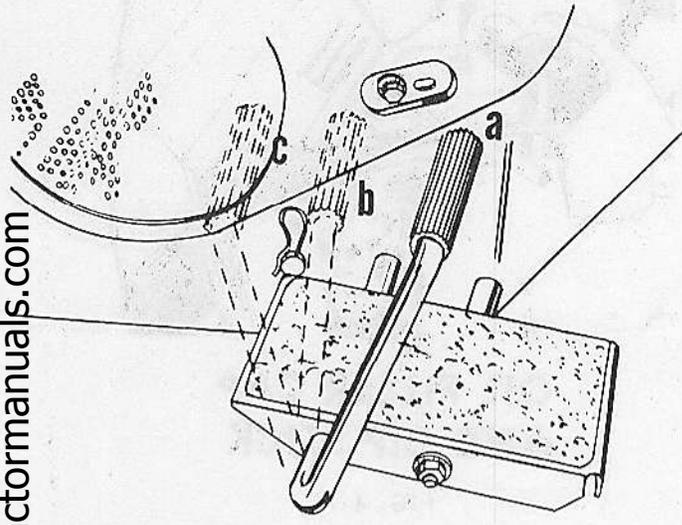
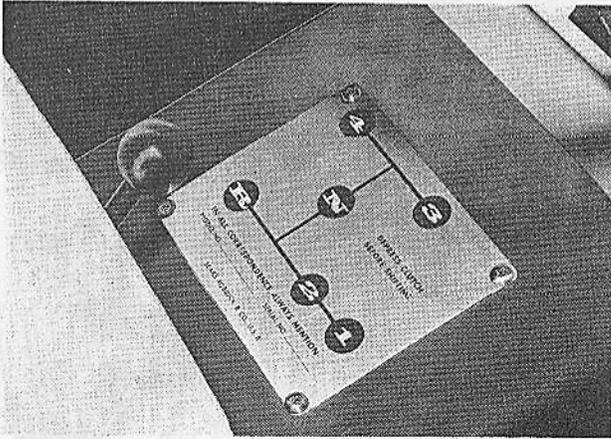
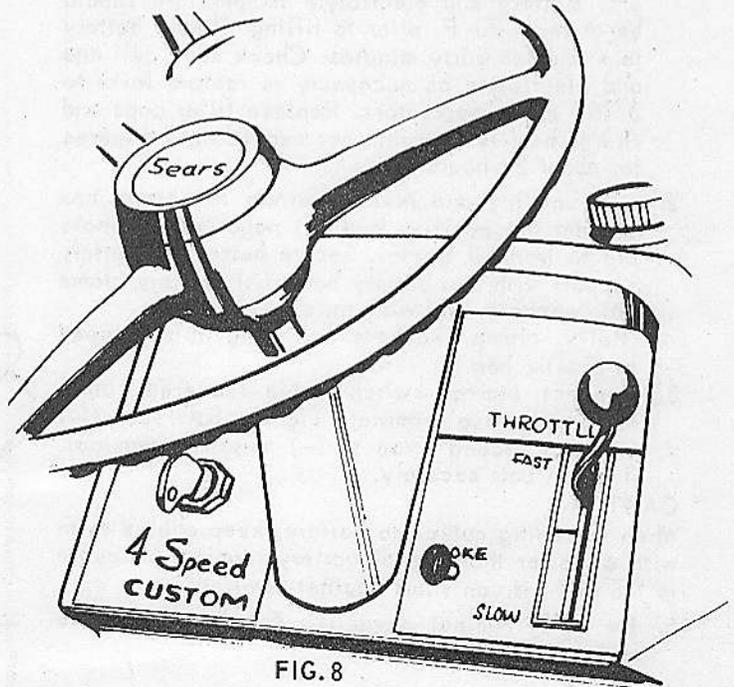

FIG. 5
FIG. 6
FIG. 8
The Drive, Clutch and Brake pedal is shown in Fig. 5. This pedal operates a combination brake and drive clutch. There are three positions of operation:
- The Transmission gear shift lever is located at front center of seat. Refer to Fig. 6.
- Transmission gear shift lever, refer to Fig. 6, is in NEUTRAL. In Neutral the gear shift lever is free to move forward and backward. It will operate similar to an automobile.
- To start a cold engine, pull out on choke control, refer to Fig. 8.
2. Start the engine and put the throttle lever in the SLOW position, refer to Fig. 8. Push down on foot pedal, refer to Fig. 5, and move gear shift lever, Fig. 6, to speed desired. Gradually let up on foot pedal. DO NOT SHIFT GEARS WHILE TRACTOR IS MOVING.